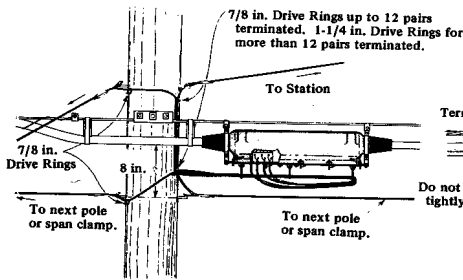
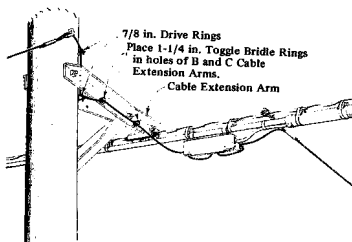

FIGURE 1—Wiring 49-Type Terminal at Pole
FIGURE 4—Running Wires to Terminal from B or C Cable Extension Arm
2.03 Typical illustrations of drop wire runs to strand-mounted terminals are shown in Figure 1 through Figure 4. Lashed cable is illustrated but the same general methods apply to terminals installed on ring-supported cable.